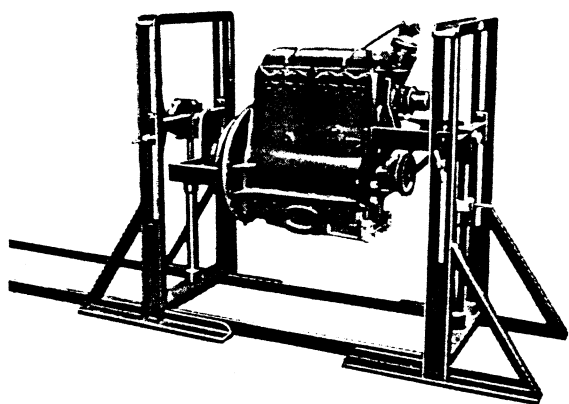

FIG. 29
6. Locate dowels in centre holes of rear mounting stand and secure engine by four bolts and nuts. Ensure that both front and rear mounting stands are positioned with slots in base plates located over rails, as shown in Fig. 29.